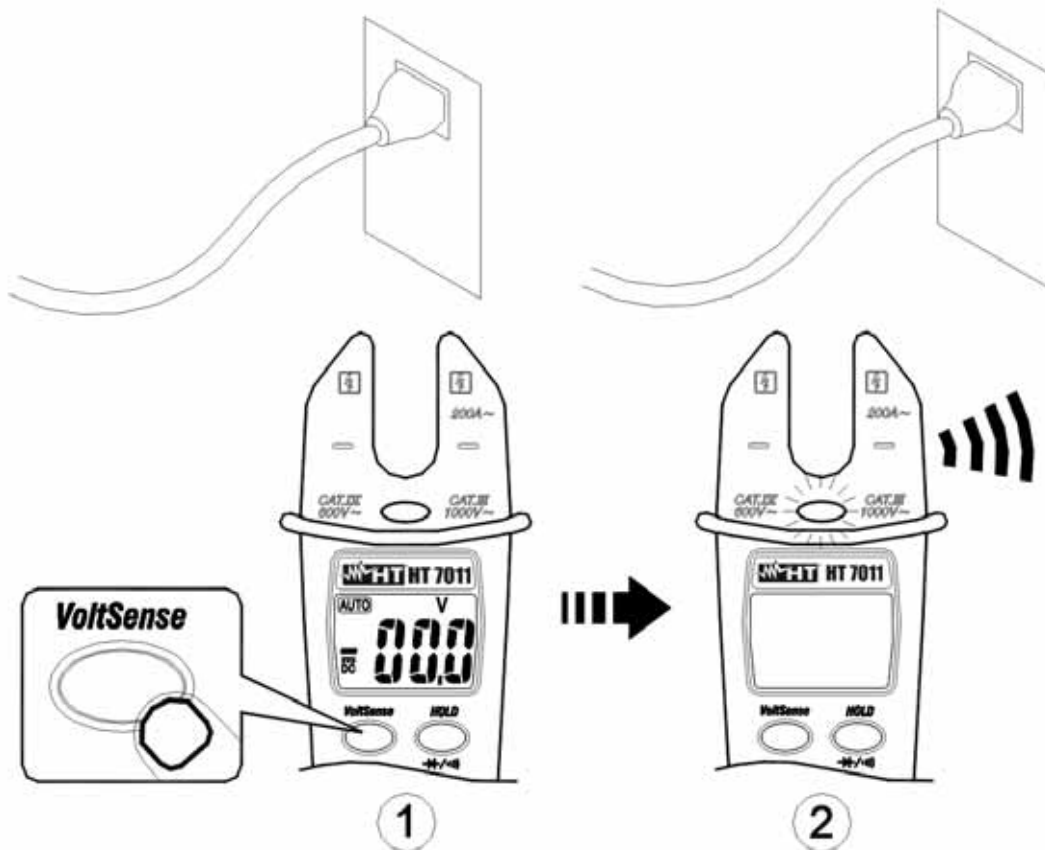

Fig. 4: Taking “VoltSense” feature
2. Pushing **VoltSense** key (see Fig. 4 – part 1). The display goes black, the red LED blinking and a buzzer sound are emitted for a while.
3. By pushing and hold **VoltSense** key, move the meter strictly near or in contact with the desired point of measure (see Fig. 4 – part 2). The red LED is always on and the buzzer always sound if AC or Dc voltage is detected.